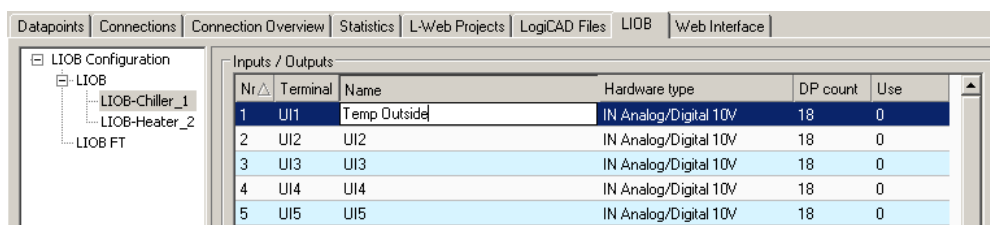

Figure 10: Change LIOB terminal names for your installation.
2. Select a L-IOB device in the tree on the left-hand side and enter names for the terminals by double-clicking into the **Name** column as shown in Figure 10.